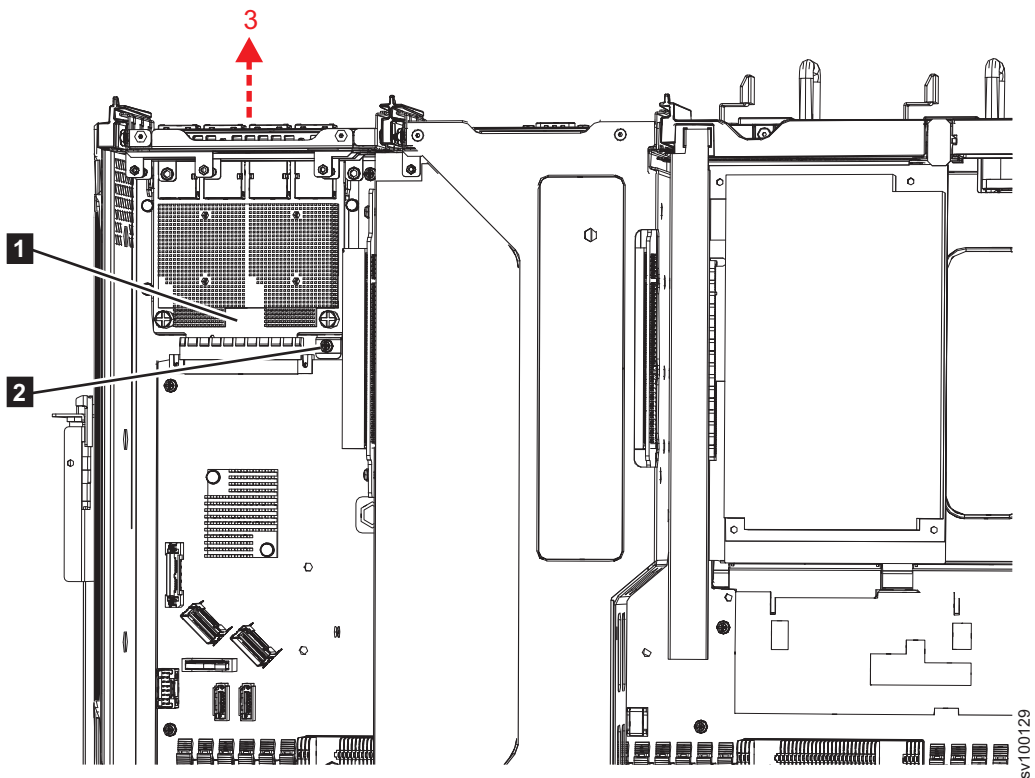

Figure 330. Removing the 2145-SV1 Ethernet edge board
8. Locate the Ethernet edge board (**1**), as shown in Figure 330 on page 403.
9. Remove the screw that attaches the Ethernet edge board to the chassis (**2** in Figure 330).
10. Push the Ethernet edge board out of the port hole at the back of the node in the direction (**3**) that is shown in Figure 330.
Figure 330 on page 403 shows where the Ethernet edge board is attached to the chassis (**2**).